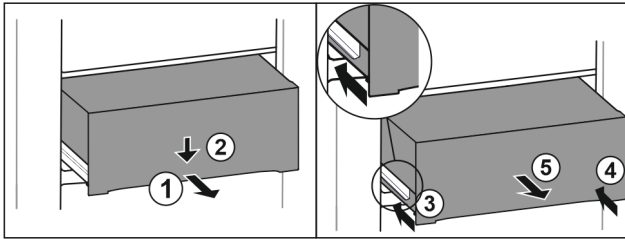

Fig. 144
- ▶ Pull out drawer half-way. Fig. 144 (1)
- ▶ Push the drawer down at the front. Fig. 144 (2)
- ▶ Push the left rail in by about 2 cm. Fig. 144 (3)
- ▶ Push the right rail in by about 2 cm. Fig. 144 (4)
- ▶ Remove drawer to the front. Fig. 144 (5)